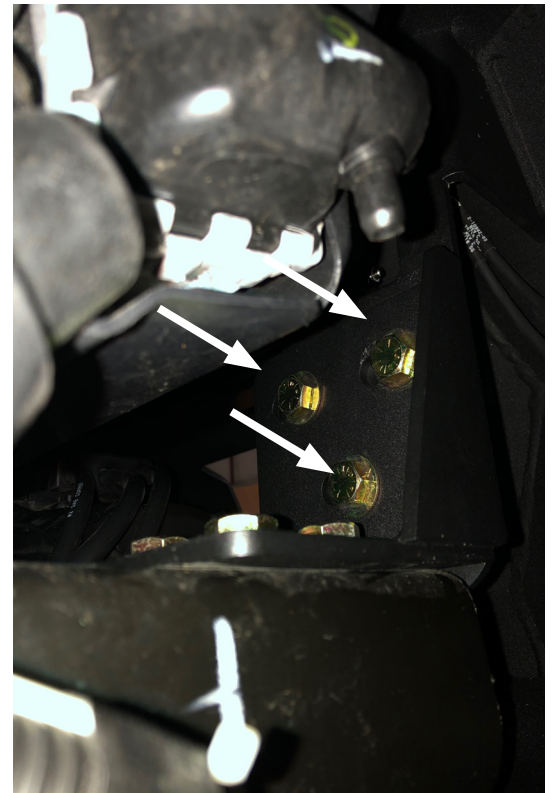

Figure 11
11. With assistance, hold the bumper up to the winch plate. Using 5/8" and 11/16" socket wrenches, install the bumper to the winch plate with the provided 7/16" bolts, flat washers, lock washers, and 7/16" nuts on both sides of the vehicle (50177-HW). When you have the bumper in the desired position tighten all mounting bolts. (Figure 11)